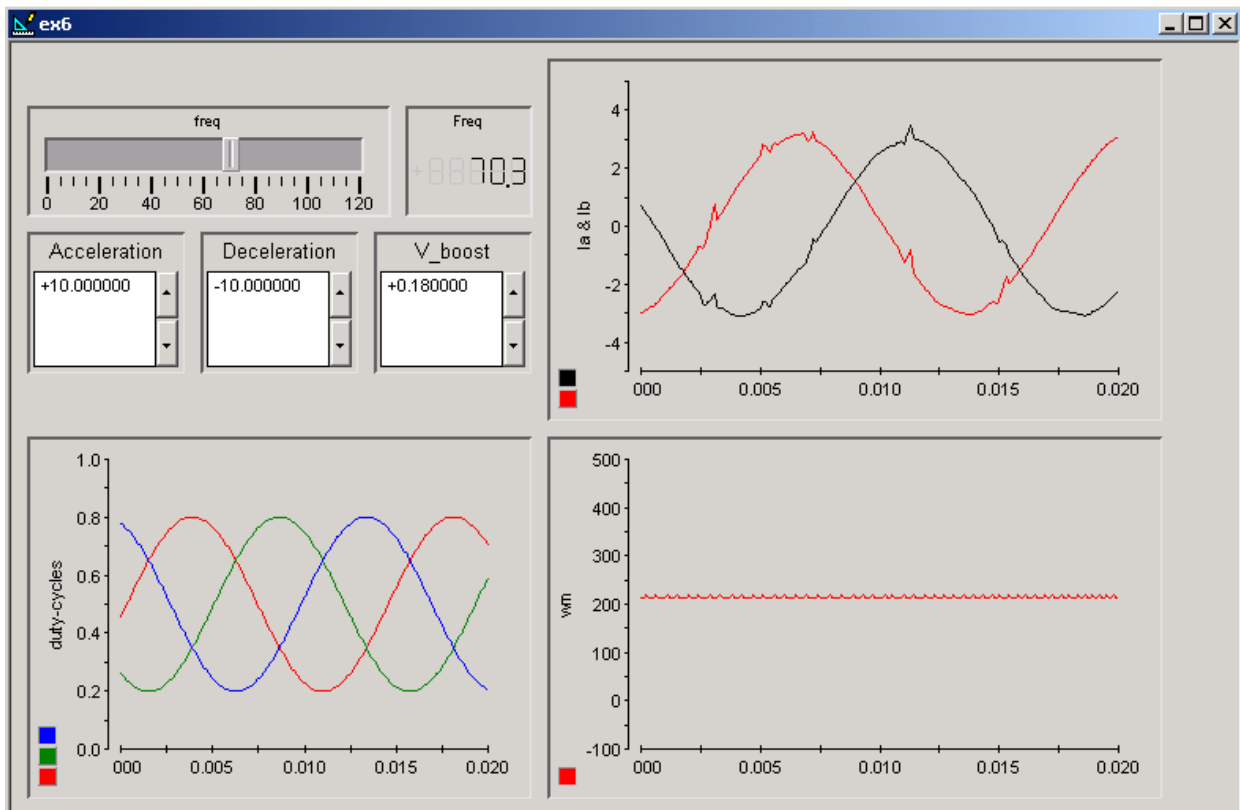

Fig.5. Layout of the Experiment 6
- Your layout should look like in Fig.5.
In Fig.5 the frequency has been increased to about 70Hz. The duty-cycles are sinusoidally generated and phase-shifted with 120° . The currents in phase a and b are also sinusoidal in steady state.